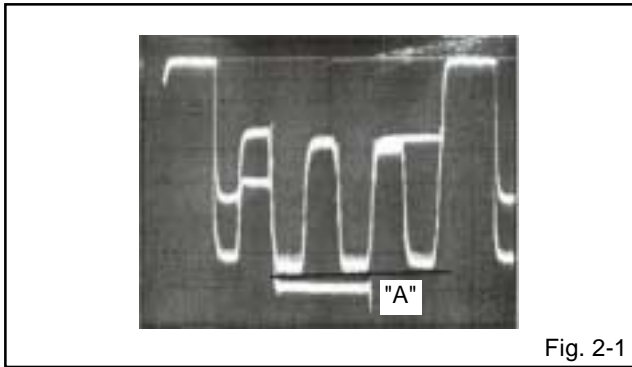

Fig. 2-1
4. Press the VOL. UP/DOWN button on the remote control until the section "A" becomes a straight line (**Refer Fig. 2-1**).